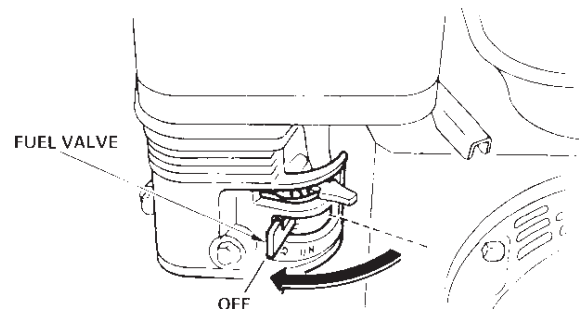

Figure 31. Fuel Valve Lever (OFF Position)
3. The best method for finishing concrete is to slowly walk backwards (Figure 31) with the trowel, guiding the trowel from side to side. This will cover all footprints on wet concrete.
3. Close the **fuel shut-off valve** (Figure 31) by moving the fuel valve lever to the **OFF** position.